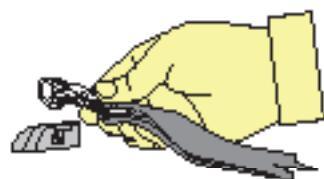

Figure 7
Step 6: Hook the attachment clip to the anchor tilting. Ensure there are no twists in the top tether strap (refer to Figure 7).